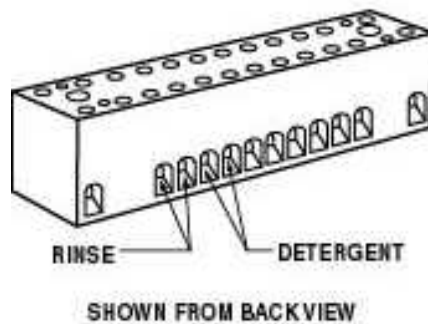

Figure 2.2.3a
2. With the machine's power "OFF", connect your detergent and rinse dispenser wires to the power block supplied and labeled ("DISPENSER 110V - 3 AMPS MAX") inside the control panel drawer. See Figures 2.2.3a, and Figure 2.2.3c. Connect dispenser ground (if present) to the ground lug located next to the power block. See Figure 2.2.3d.